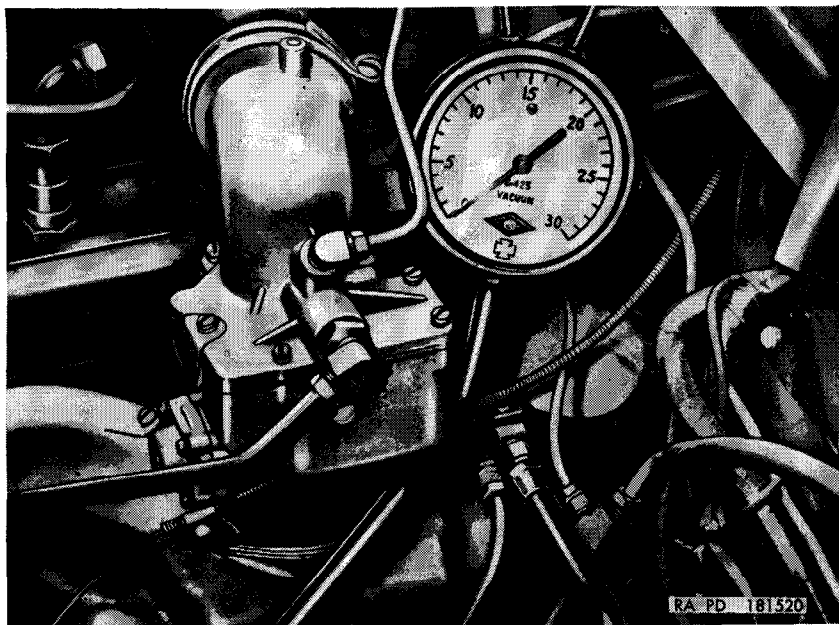

Figure 22. Testing engine vacuum.
- (1) *Incorrect carburetor adjustment.* Adjust carburetor (par. 129).
- (2) *Leaky fuel lines.* Inspect fuel lines and fittings. Replace lines or fittings if necessary (par. 135).
- (3) *Obstruction in fuel lines.* Disconnect fuel line at inlet side of fuel and vacuum pump. Remove fuel tank filler cap, and blow compressed air back through fuel line to remove any obstructions.
- (4) *Faulty fuel pump.* Perform fuel and vacuum pump test (b(2) above). Replace fuel and vacuum pump if necessary (par. 131).
- (5) *Faulty carburetor.* Replace carburetor (par. 129).
(6) *Faulty engine vacuum.* Perform engine vacuum test as follows—disconnect fuel and vacuum pump vacuum line at elbow located on exhaust manifold, and install vacuum gage adapter in elbow (fig. 22). Start engine and run at idling speed until minimum operating temperature (160° F.) is reached. Make sure the carburetor is adjusted properly. Adjust if necessary (par. 127). With engine operating at normal idling speed, vacuum gage should show a reading of 18 to 21 inches of mercury. A pointer fluctuating between 10 and 15 inches of mercury may indicate a leaking valve or defective cylinder-head gasket. An abnormally low reading with the pointer steady may indicate a leak at the carburetor. Accelerate and decelerate engine rapidly. Vacuum should drop to approximately 2 inches of mercury with rapid acceleration, and should rise to 24 inches of mercury as acceleration is decreased quickly.